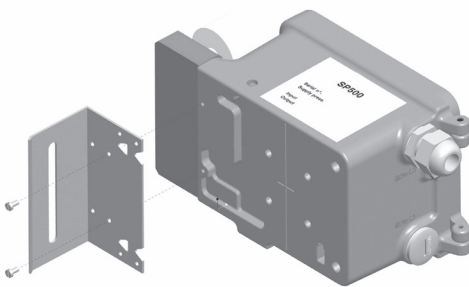

Fig. 31
5.2.5 Locate the protection plate onto the back of the SP500 positioner housing and fix in place (Figures 31 and 32).